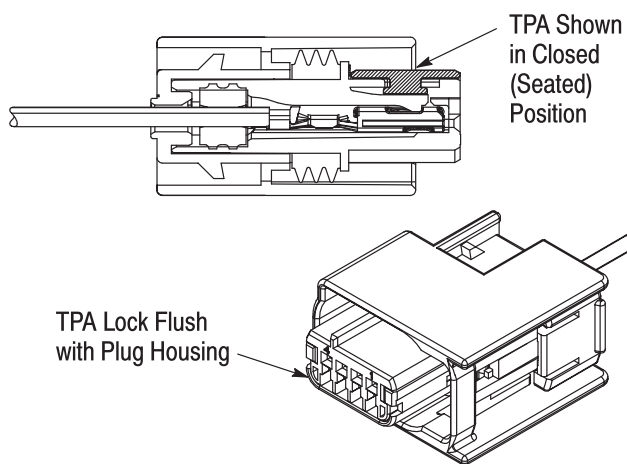

Figure 4
3. After all required contacts have been inserted, the TPA must be closed. To close, push evenly across the TPA lock. The TPA lock should be flush with the plug housing. See Figure 4.